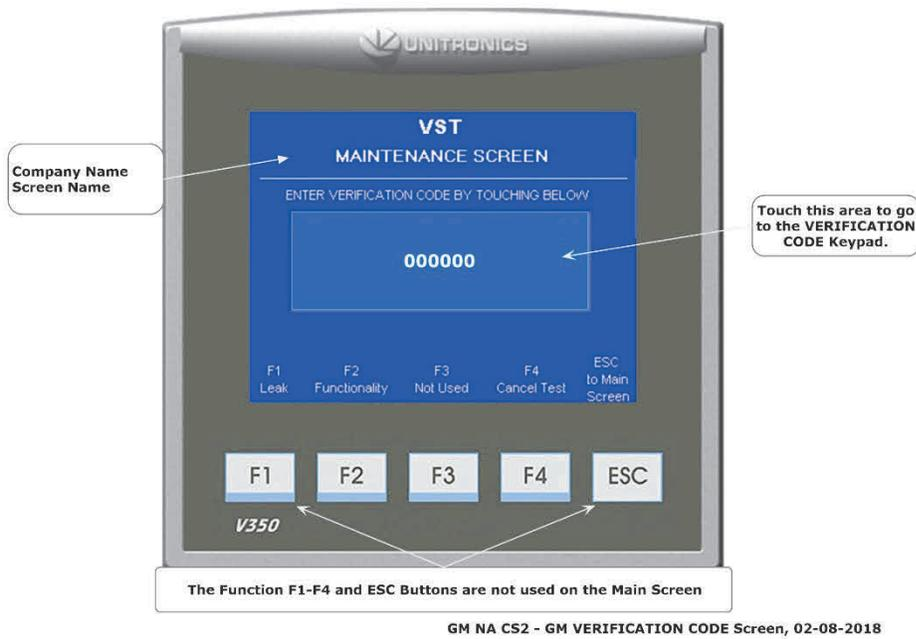

Figure 6-14: VERIFICATION CODE screen
7. Push the large button with 000000 showing. See **Figure 6-14**.